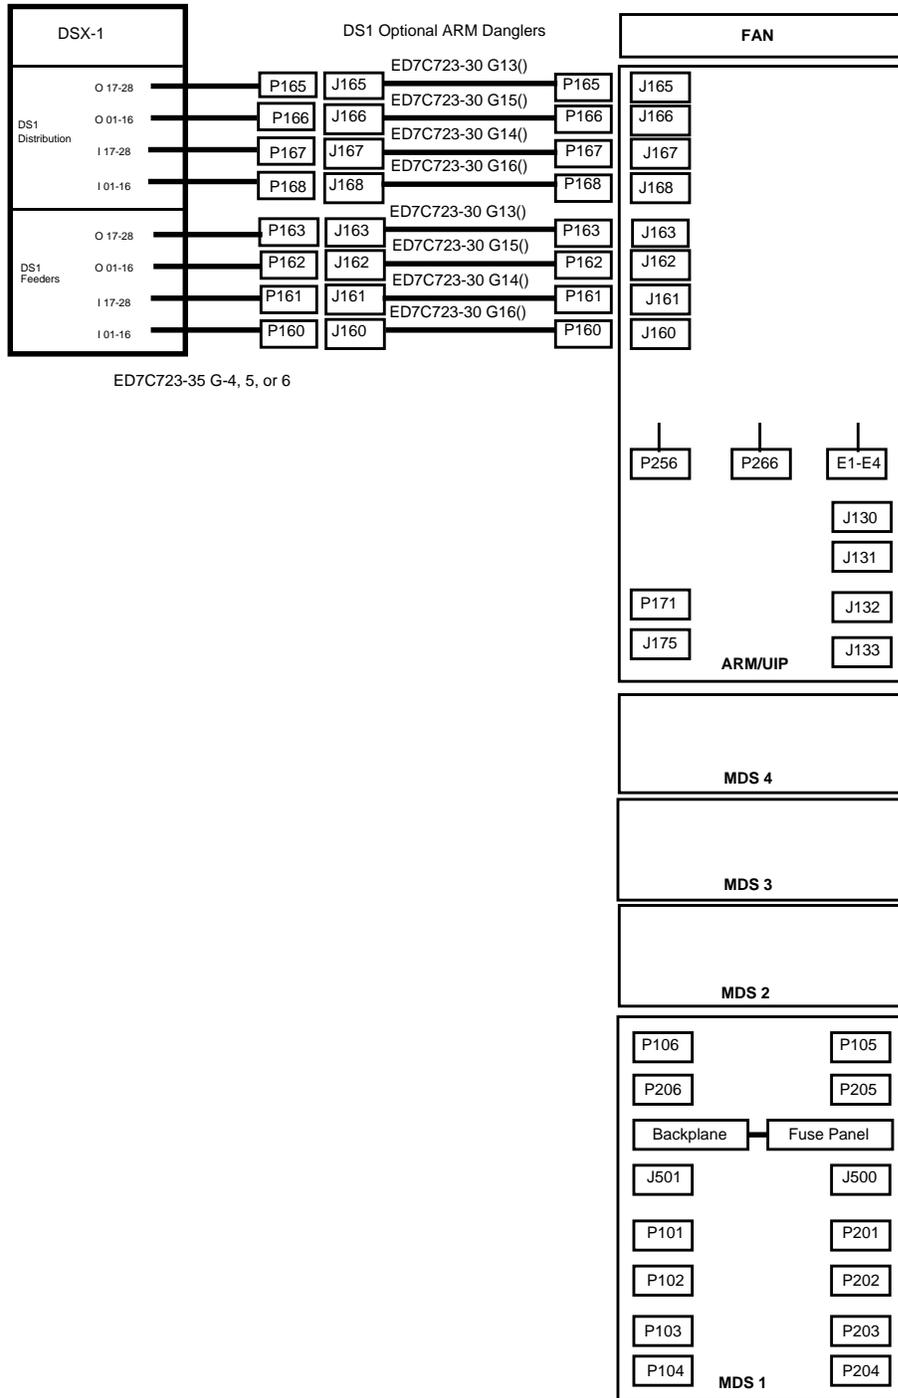

Figure 3-25. Customer DS1 Interface Cables (ED7C723-35, G4, 5, or 6)
This procedure consists of installing the DS1 Customer Interface Cable Assemblies (ED7C723-35 Group 4 or 5 or 6, Figure 3-25) and mating their connectors to the ARM Shelf Dangler Cable Assemblies [ED7C723-30 Groups 13() to 16()] which have been previously installed.
- Step 1:* Install the DS1 Interface Cable Assemblies in the left duct and mate their connectors (P160 to P163 or P165 to P168) with the J160 to J163 or J165 to J168 connectors of the ARM Cable Assemblies [ED7C723-30 Groups 13() to 16()]; consult Figure 3-25.